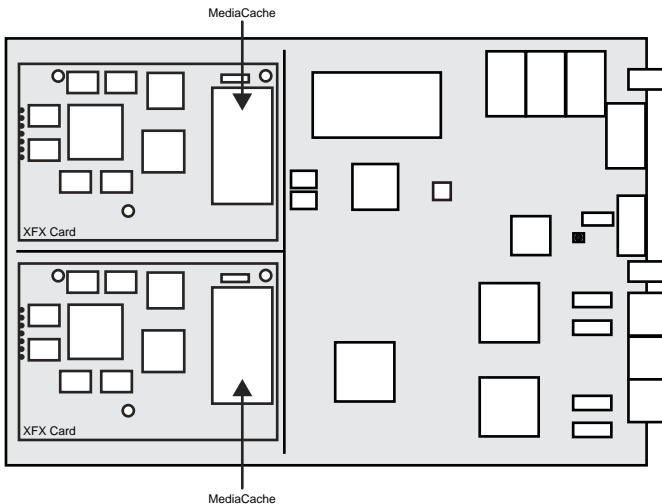

Figure 4 Video Processor Board — MediaCache Location
3. Locate the MediaCache on the Video Processor Board (**Figure 4**).